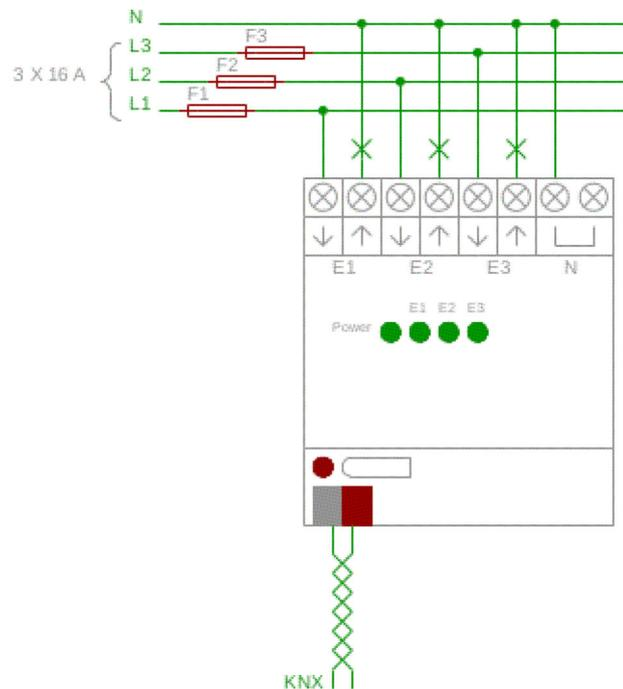

Figure 2: Connection diagram for direct current measurement
- Connect the mains, load and bus terminal as shown in Fig. 2. In so doing, the neutral conductor must be connected to the device. On removal, the neutral conductor must be disconnected from the device last.